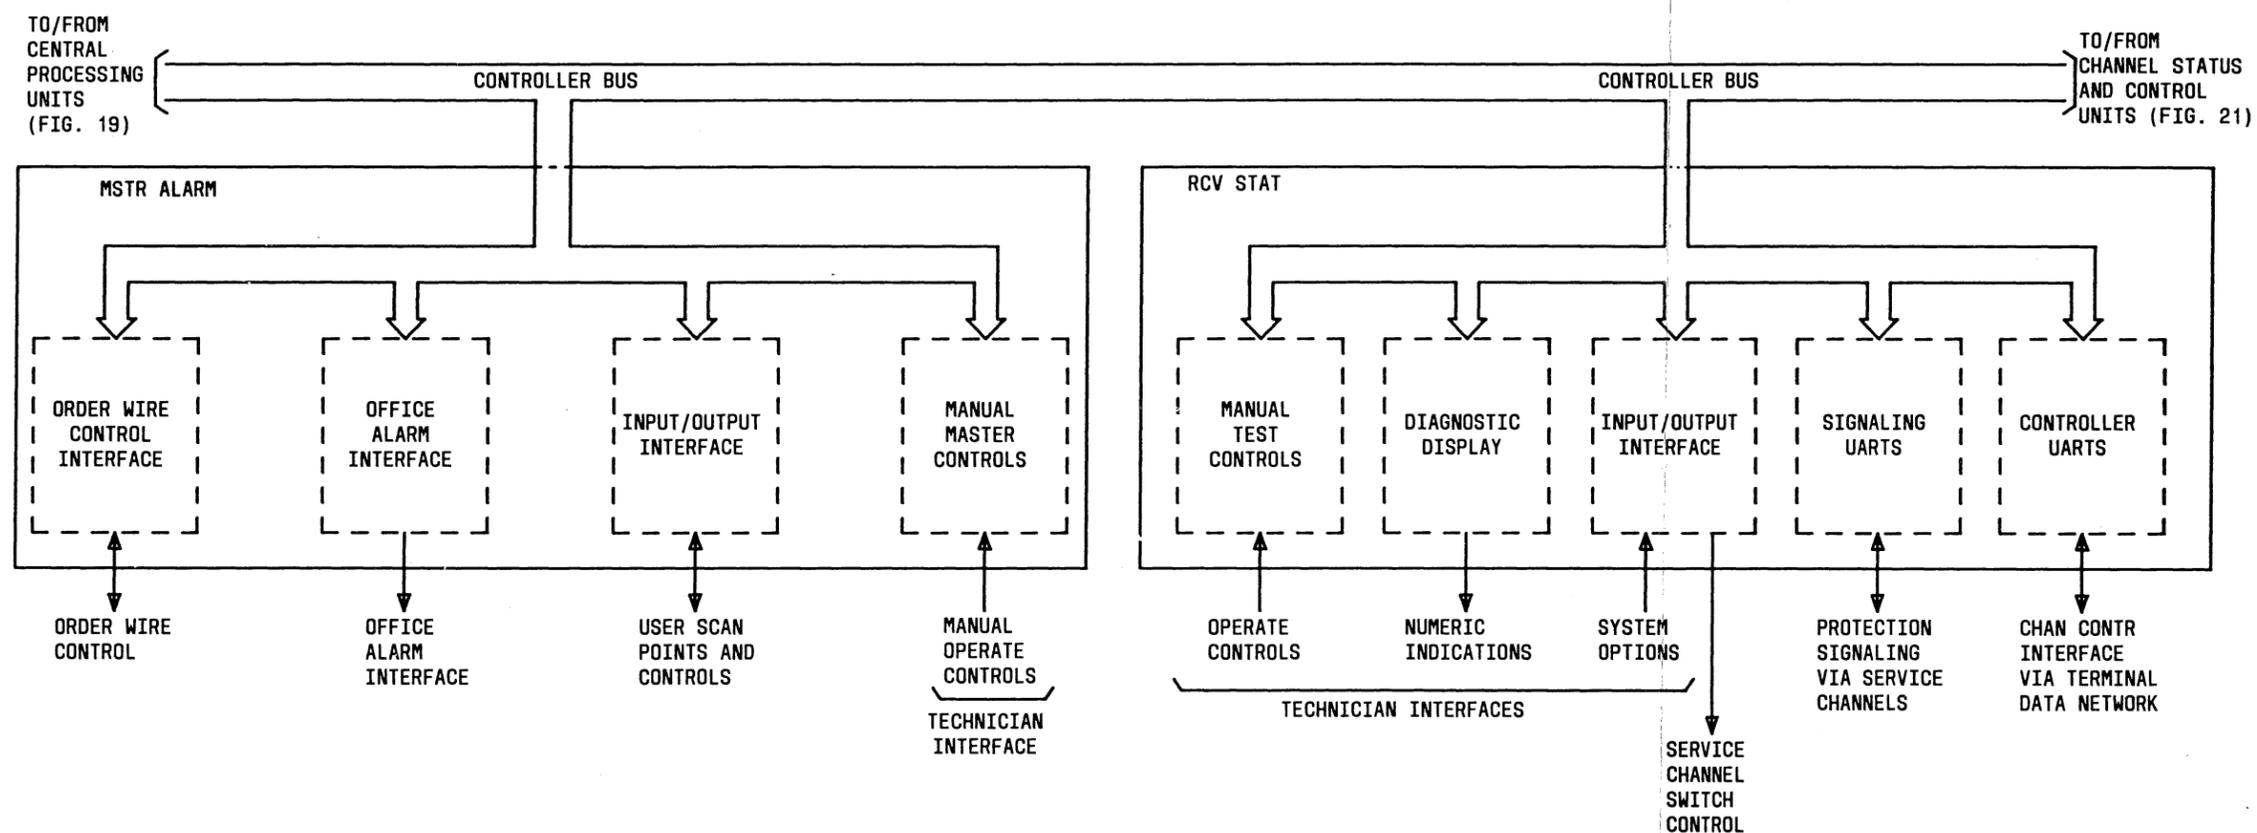

Fig. 20—System Interface Units
- Figure 20—System Interface Units